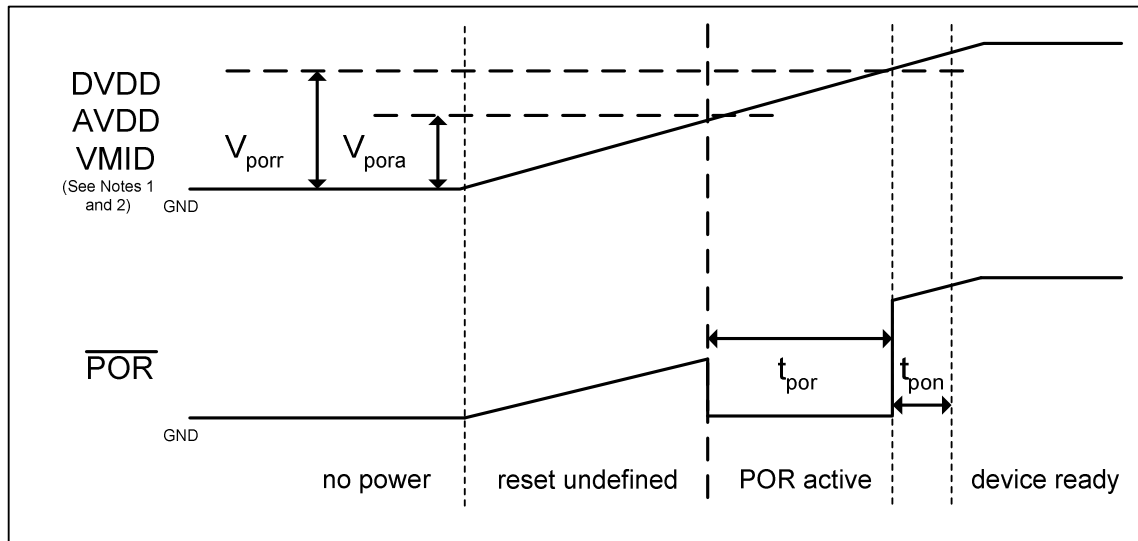

Figure 8 Power Supply Timing Requirements – Power-on
- POR is activated when DVDD or AVDD or VMID reach their stated Vpora level (Figure 8)
- POR is only released when DVDD and AVDD and VMID have all reached their stated Vporr levels (Figure 8).